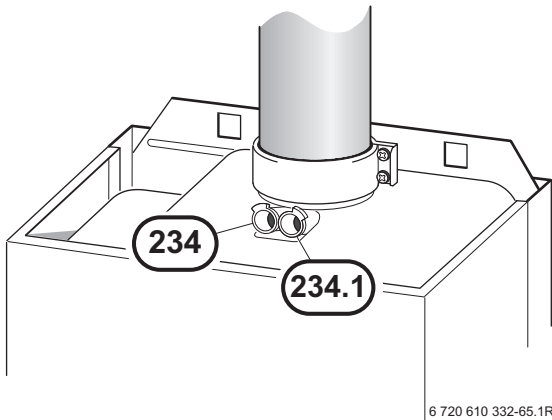

Fig. 42
- ▶ Remove sealing plug from combustion air testing point (234.1, Fig. 42).
- Remove sealing plug from flue gas testing point (234, Fig. 42).